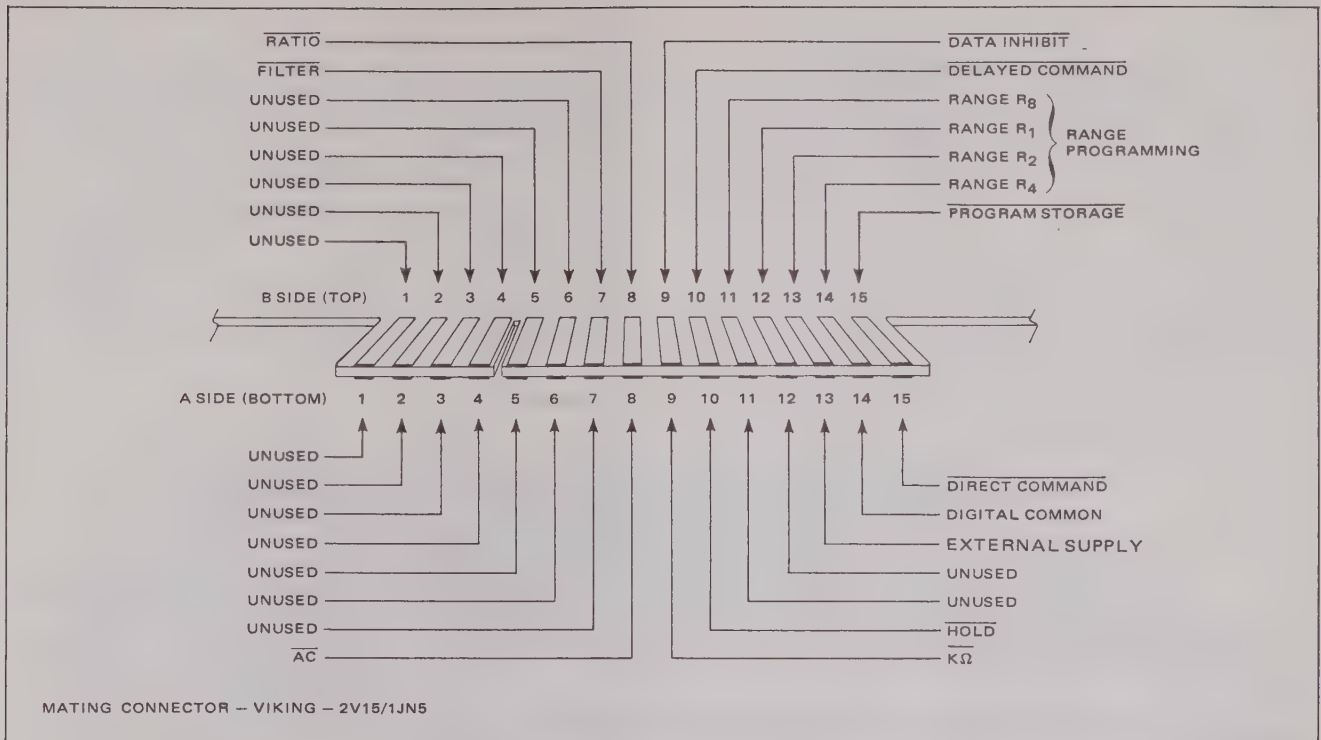

Figure 2.8 - Pin Assignments - J208 Programming Connector
2.58 For remote control of the instrument, the FUNCTION switch on the front panel must be set to REMOTE. In this position, the operating controls are disabled. The instrument is then controlled by commands made through the PROGRAMMING connector, J208, on the rear panel of the instrument. Pin assignments of J208 are shown in figure 2.8. Commands are in the form of contact-closures from the appropriate pin to digital common (A14) or by standard TTL logic levels (0 to .5V, false; +2.4 to 5.0V, true) with respect to digital common.